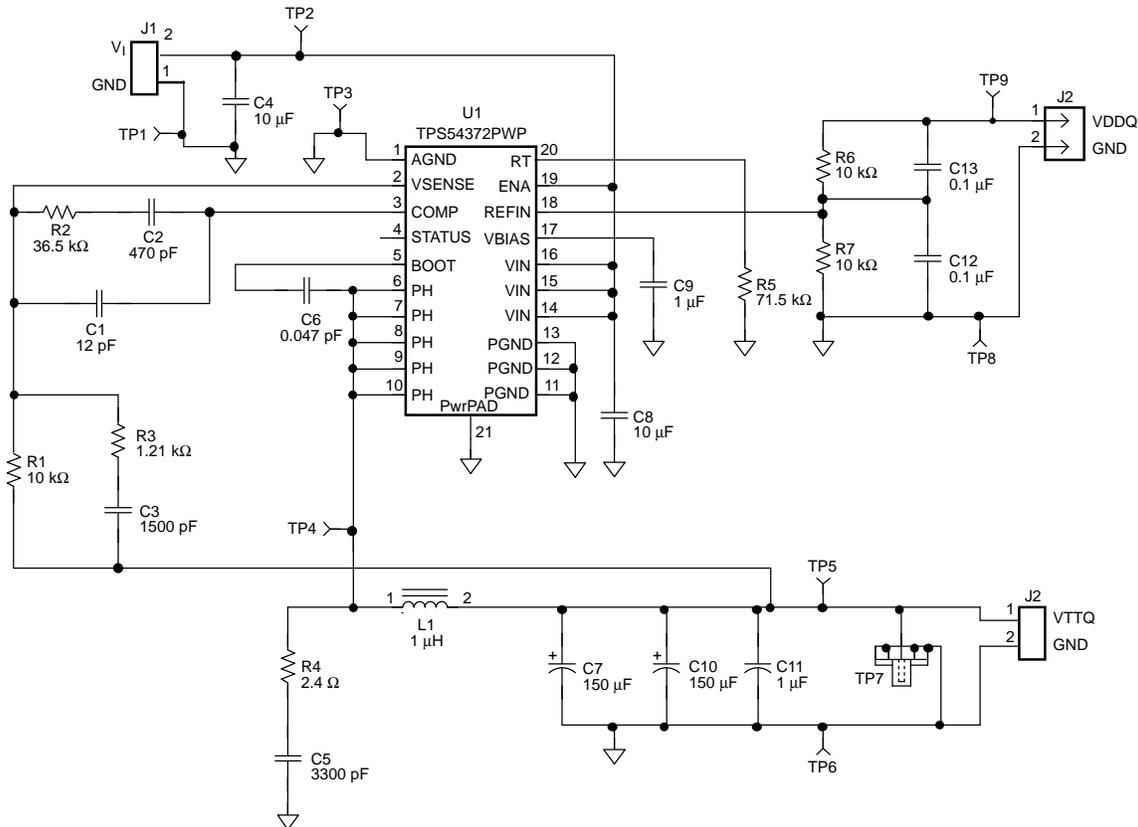

Figure 8. Application Circuit
- (1) Specified by design
(2) Static resistive loads only
(3) Specified by the circuit used in Figure 8
Figure 8 shows the schematic diagram for a typical TPS54372 application. The TPS54372 (U1) can provide up to 3 A of output current at a nominal output voltage of one half of  $V_{DDQ}$  (typically 1.25 V). For proper operation, the PowerPAD underneath the integrated circuit TPS54372 is soldered directly to the printed-circuit board.